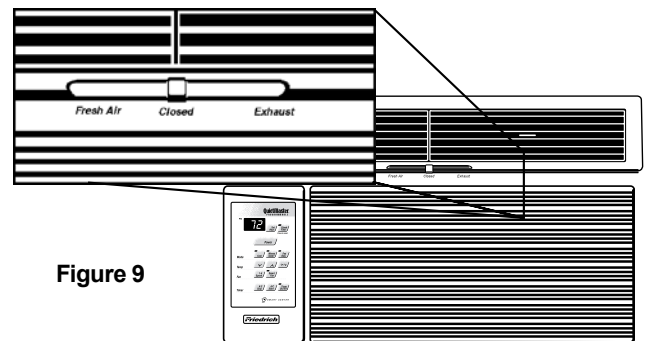

Figure 9
- 3 **FAN ONLY** - Press the **Fan Only** button if you want to run the fan only. You may want to use this feature in conjunction with the **Fresh Air/Exhaust** if you want to bring outside air into the room, or exhaust stale air. (The FRESH AIR/ EXHAUST feature is located on the front of the air conditioner near the top. See Figure 9 on page 7.)
The **Fan Only** setting can also be used with the **Exhaust** air setting to remove stale air or smoke from the room; or it can be used with the **Fresh Air** setting to bring outside air into the room. This is especially useful in the spring and fall when cooling may not be necessary. The **Fresh Air** and **Exhaust** controls are in the upper air discharge area. The center position of this control is the normal, or closed position, which recirculates air for maximum performance in the cooling mode (See Figure 9).
The **Fresh Air** and **Exhaust** controls are in the upper air discharge area (see Figure 9, page 7). The center position of this control is the normal, or closed position, which recirculates air for maximum performance in the cooling mode.
Your air conditioner has the ability to bring fresh air into the room or exhaust stale air out of the room. The control lever is found on the upper part of the unit (See Figure 9).